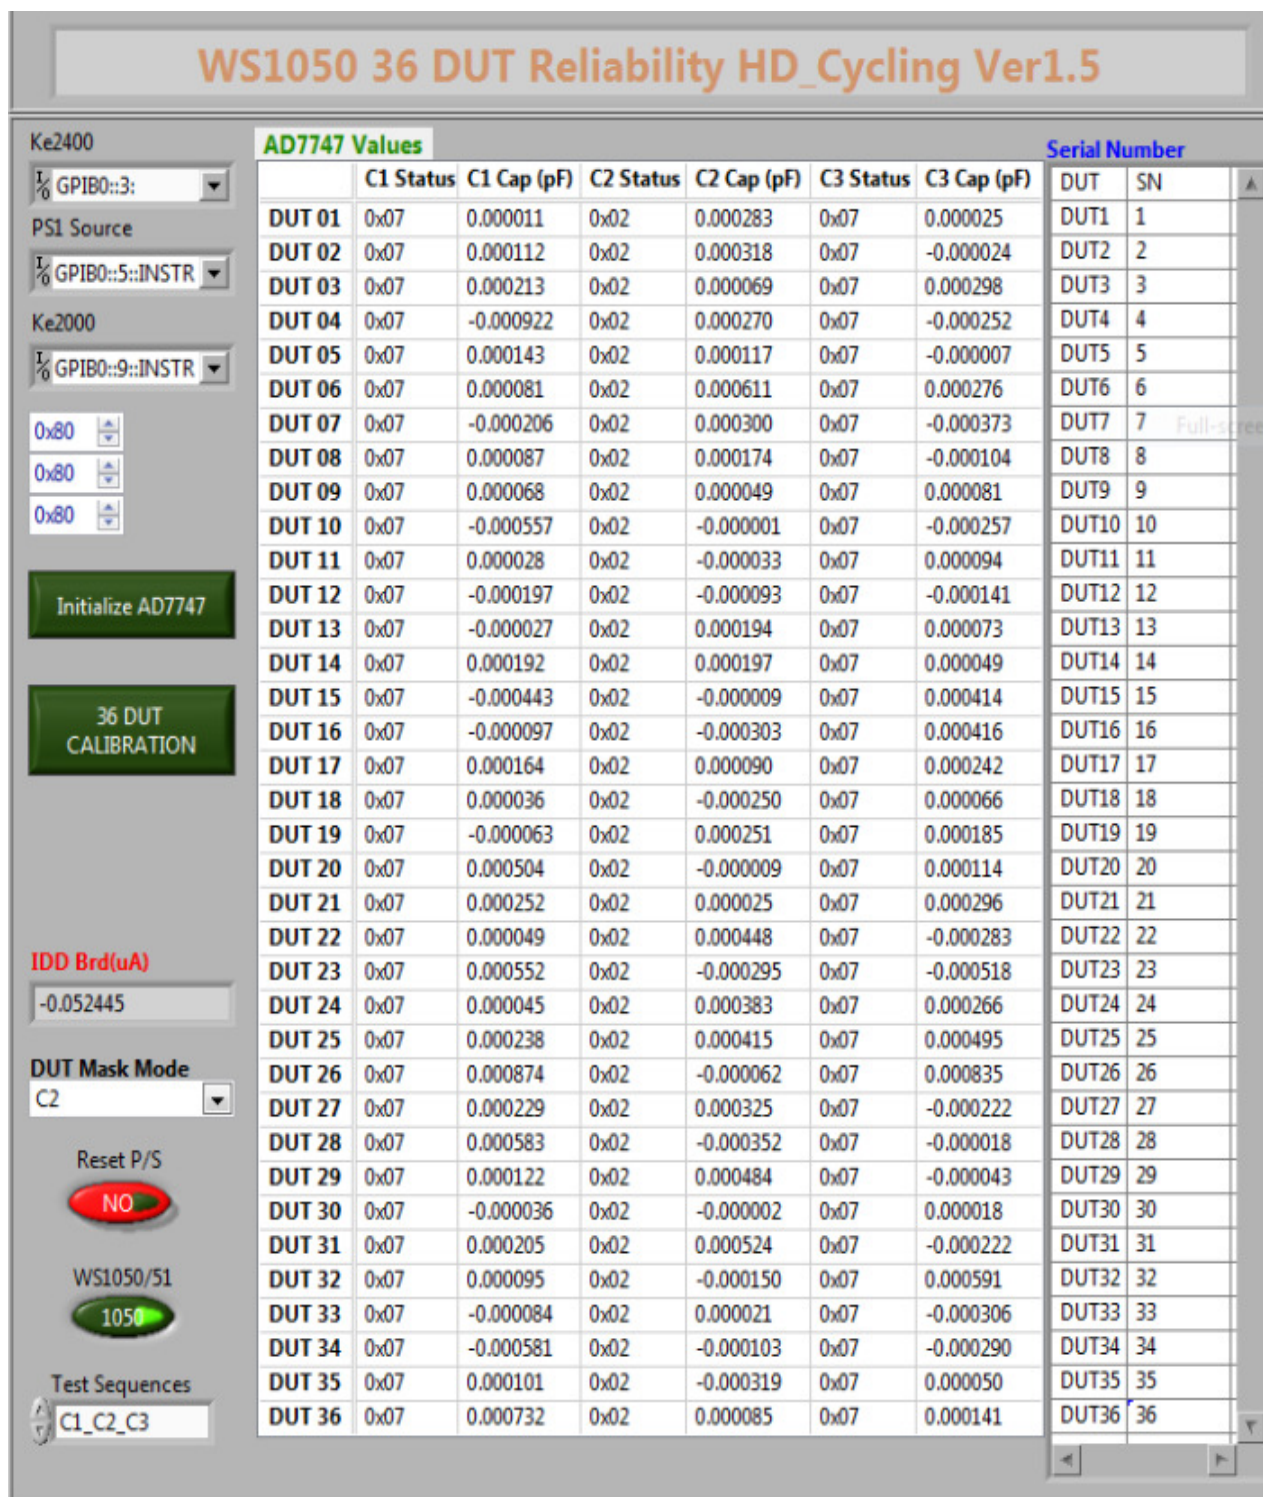

Figure 4 Empty Socket Calibration Summary Window
- For calibration (Figure 4): All sockets should be empty and the capacitance values of 36 DUT should be around zeros “~0” for all three banks. If not, click on “36 DUT CALIBRATION” button to zero out the sockets